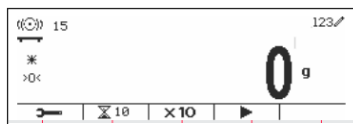

Figure 83
1. Use the alphanumeric keypad to key in the desired averaging time. (See Figure 83)